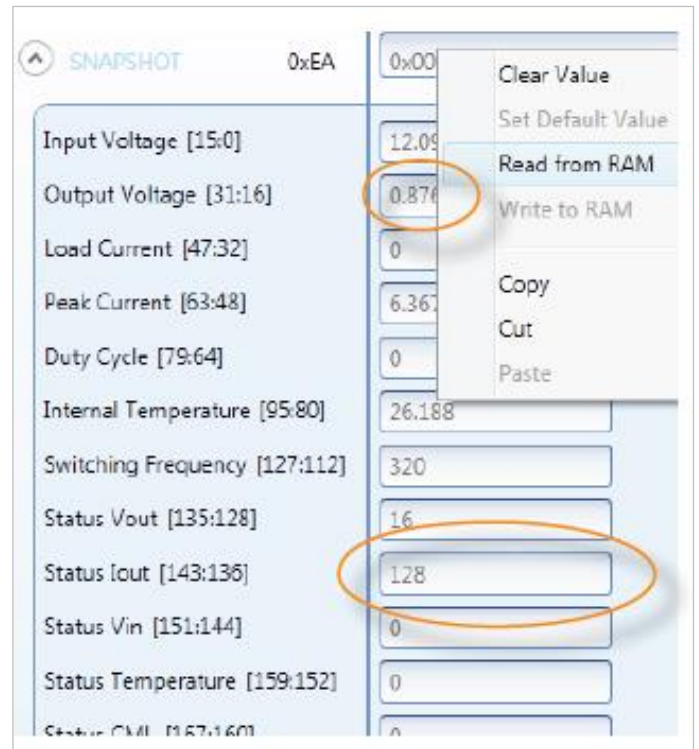

Figure 14: Read of SNAPSHOT command after restoring from NVM
4. The snapshot data we are looking for is now in RAM and we can read the SNAPSHOT command to find out status and parameters from the fault moment, see Figure 14. For example we can see a fault indication is set in Status lout field and that the output voltage had dropped to 0.87V when snapshot was captured.